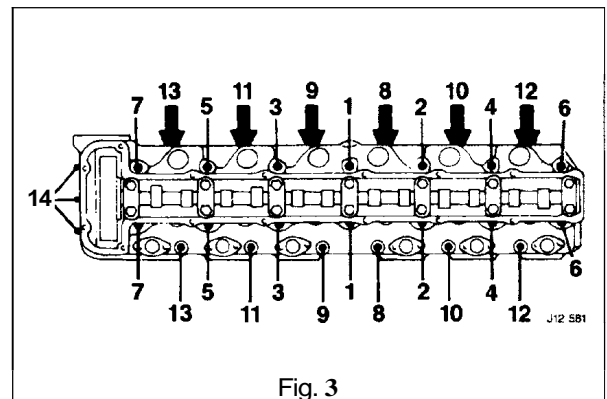

Fig. 3
- Fit and tighten the cylinder head securing nuts with reference to the sequence shown in Fig. 3. See Service Data in the Preliminary Pages for the correct torque figures.
- Position the seal squarely in the recess and seat using Service Tool JD 129, and crank **bolt** (Fig. 3).